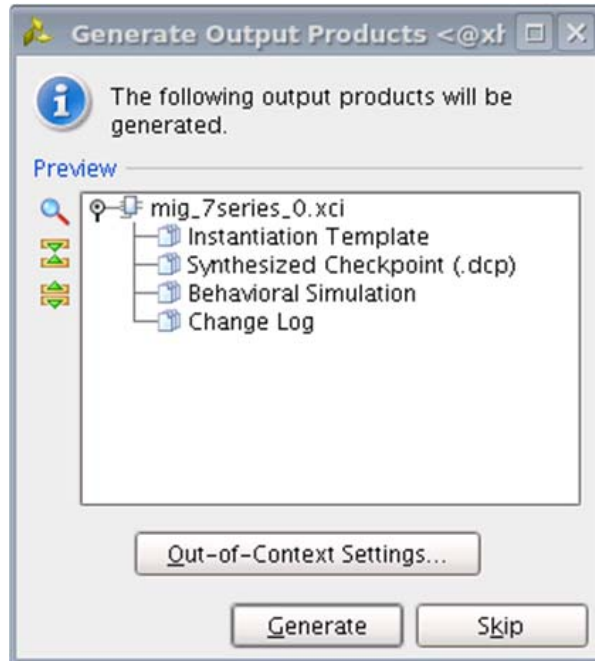

Figure 2-28: **Generate Output Products Window**
1. After clicking **Generate**, the **Generate Output Products** window appears. This window has the **Out-of-Context Settings** as shown in Figure 2-28.